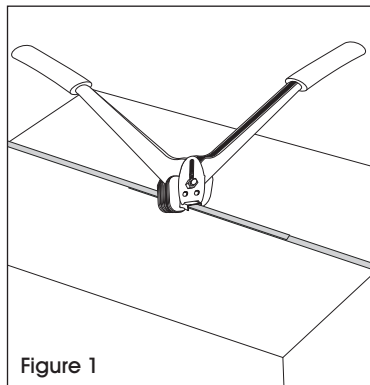

Figure 1
1. Hold the sealer vertically and place the jaws of the tool across the middle of the seal. Make sure to center the jaws across the middle of the seal. (See Figure 1)